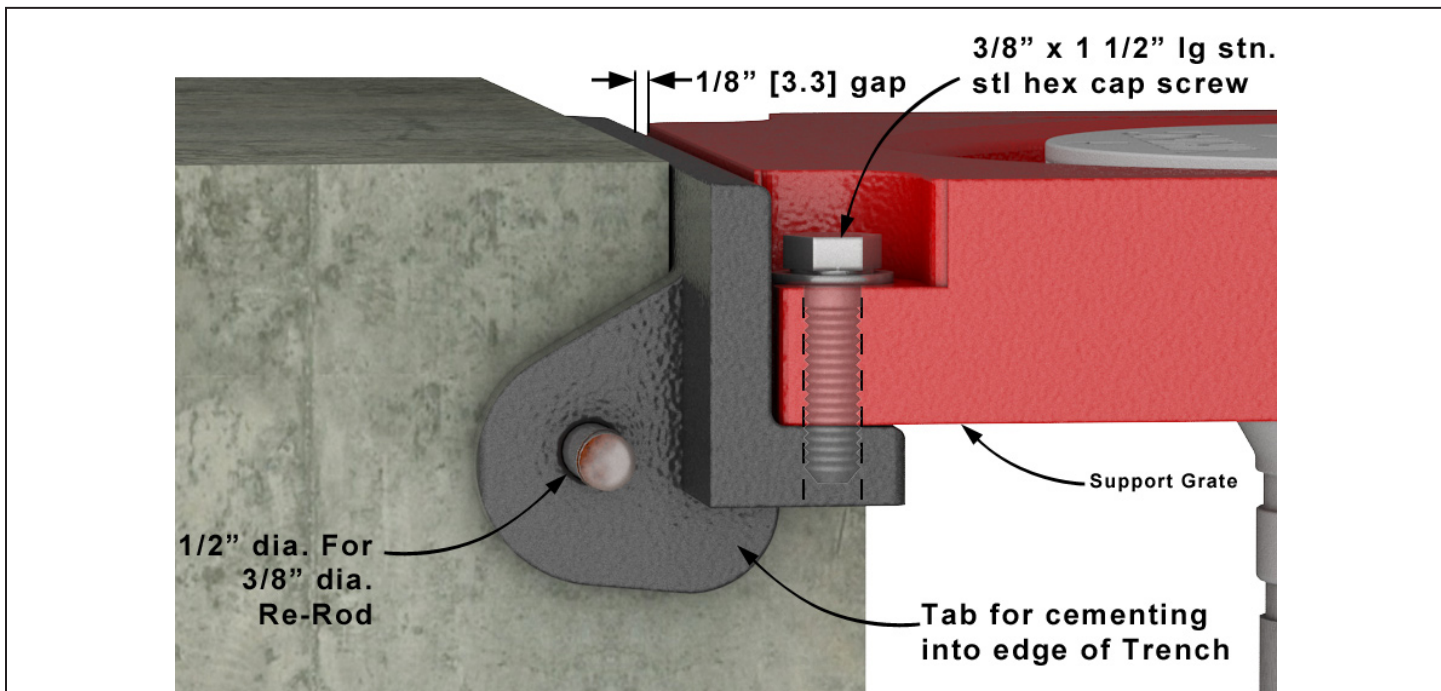

Figure 5 - X-Frame Detail
- The "X" frame furnished with the Grate Nozzle assembly shall be set in concrete using re-rod as shown in Figure 5. Positioning